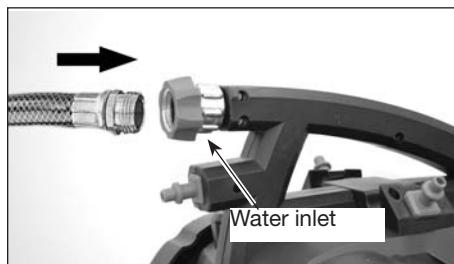

Figure 7 - Attach garden hose to unit
4. Attach garden hose to unit (see Figure 7).